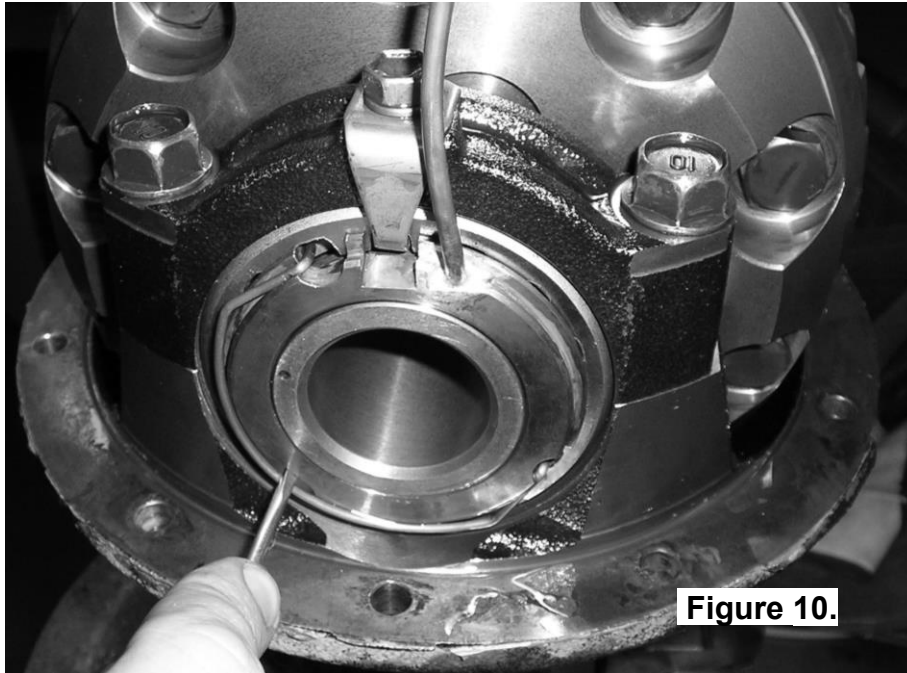

Figure 10.
- Install the spring clip by first hooking both ends of the clip into the small aligned cutouts of the seal housing and the adjuster nut, and then snapping the clip into the groove of the seal housing using a screwdriver. (Fig.10.)